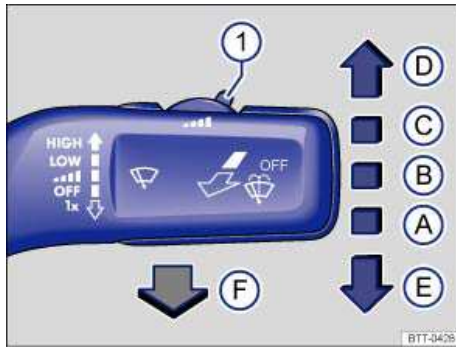

Fig. 106 Operating the front windshield wiper.
- Press the windshield wiper lever down briefly ⇒ fig. 106 (E) when the ignition is off.
Carefully fold the wiper arms back onto the windshield before driving! Switch the ignition on and press the windshield wiper lever down briefly ⇒ fig. 106 (E). The wiper arms move back to their original position.